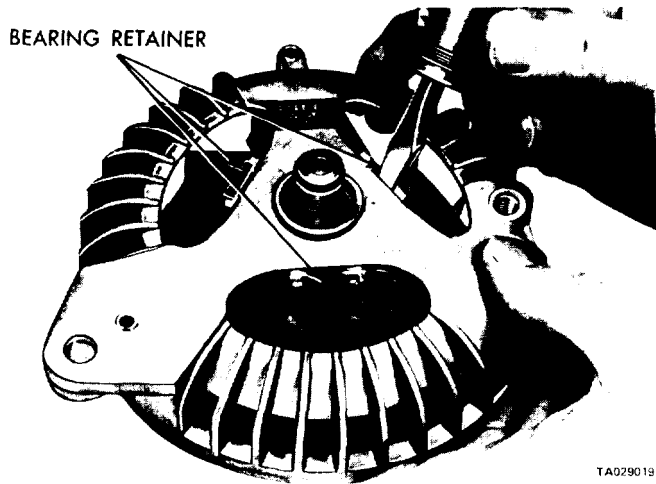
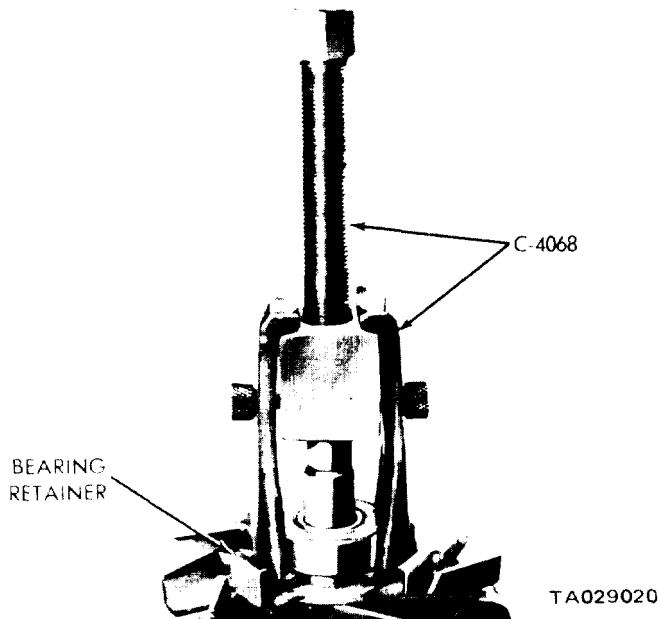

Figure 14-10. Disengaging Bearing Retainer from End Shield.
Figure 14-11. Removing Bearing from Rotor Shaft.
(2) Pry the drive end bearing retainer from the end shield (figure 14-10).
(3) Support the end shield and tap the rotor shaft with a plastic hammer to separate the rotor from the end shield.
(4) The drive end ball bearing is pressed on the rotor shaft. Remove the bearing with puller tool C-4068 (figure 14-11).